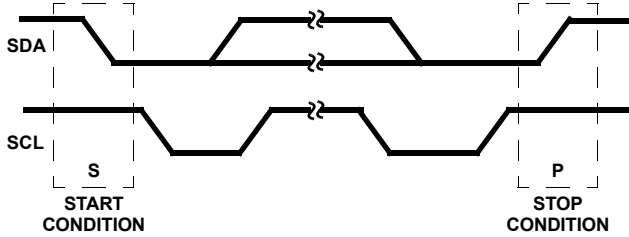

FIGURE 16. START AND STOP WAVEFORMS
Figure 16 shows a START (S) condition is a HIGH to LOW transition of the SDA line while SCL is HIGH.